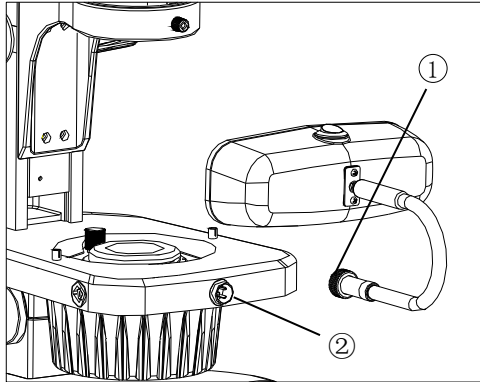

Fig. 3
2.2.4 Install fluorescent lamp (Fig. 3)